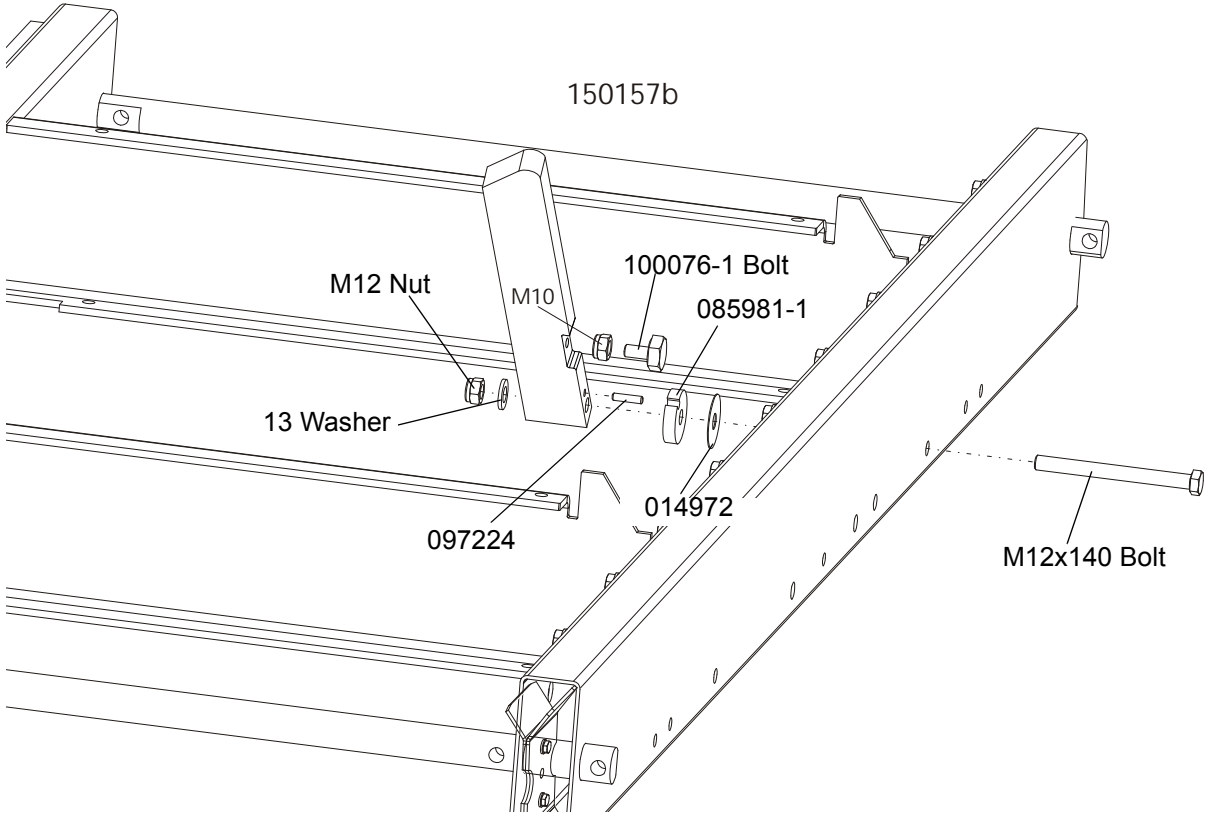

FIG. 2-7
8. Install the log side supports as shown in Figure 2-7. Tighten the nuts so that the side supports can be moved with little resistance. Adjust the side supports. See Section 6.11.
See Figure 2-7.